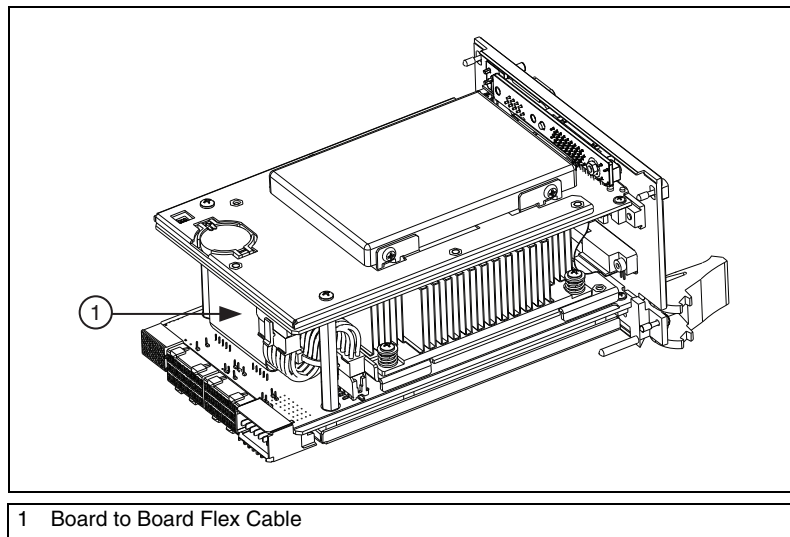

Figure 1. View of the Controller Back End with Board to Board Flex Cable
1. Locate the single-ended board to board flex cable on your NI PXI-8109 or NI PXIe-8133 embedded controller as shown below in Figure 1.